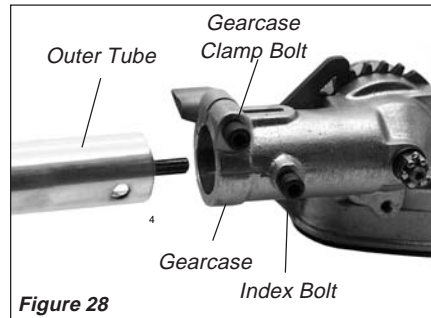

Figure 28
- **Lubricate the gearcase.** To perform this operation, first remove the gearcase from the outer tube as follows (Figure 28.):